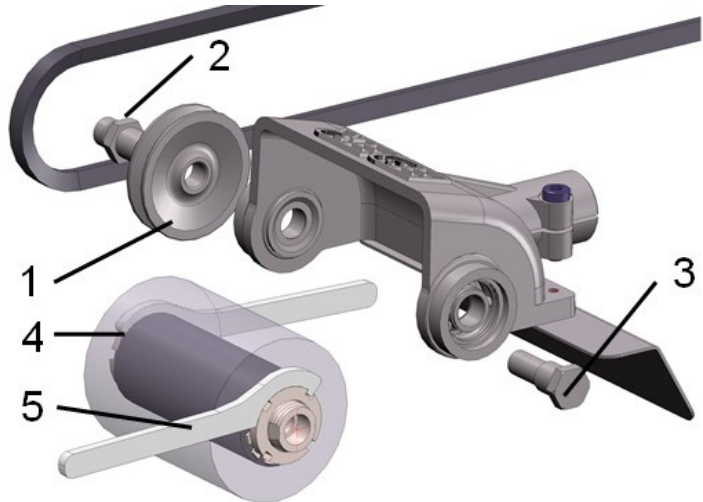

Figure 13: Change round brush
- > Screw off the wedge strap disc (**1** – of Fig.13). Take a lace pliers to help and place them in the side holes of the wedge strap disc.
- > Screw out the bearing wave briefly (**3** – Fig.13) and the bearing wavelong (**2** – Fig.13).